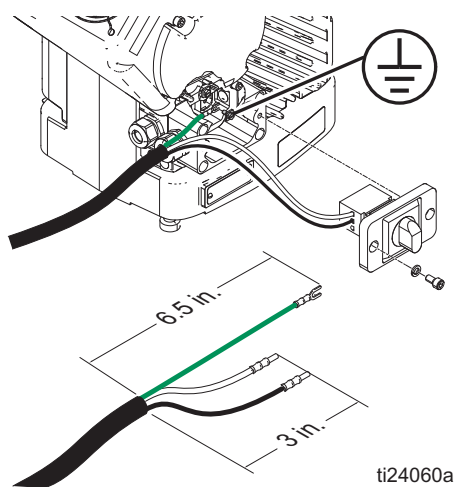

FIG. 1: Power Cord
- Add ferrules as necessary. See FIG. 1.